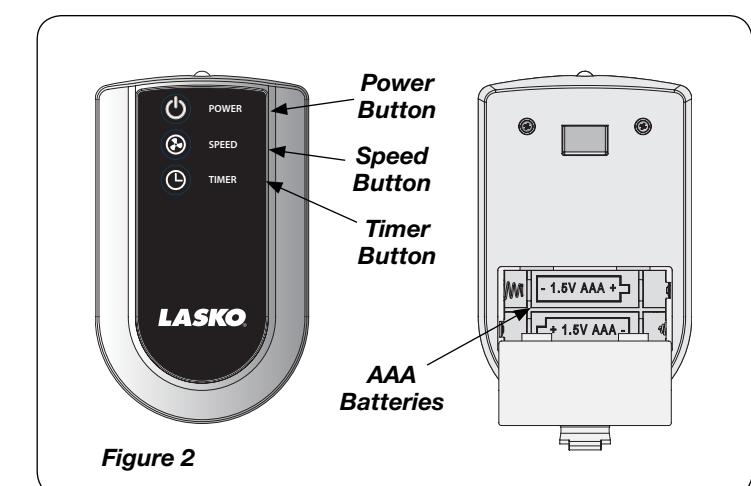

Figure 2
All the functions performed with the Remote Control work identically to the manual controls. (Figure 2)
1. Install batteries (not supplied) as shown in Figure 2. The battery type is AAA.